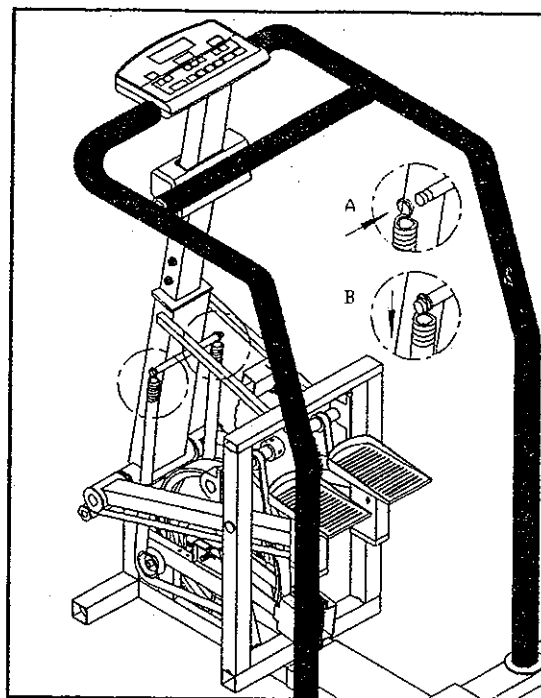

Fig.27
8. Secure the two springs in their correct positions, following steps A and B (see Fig. 27).